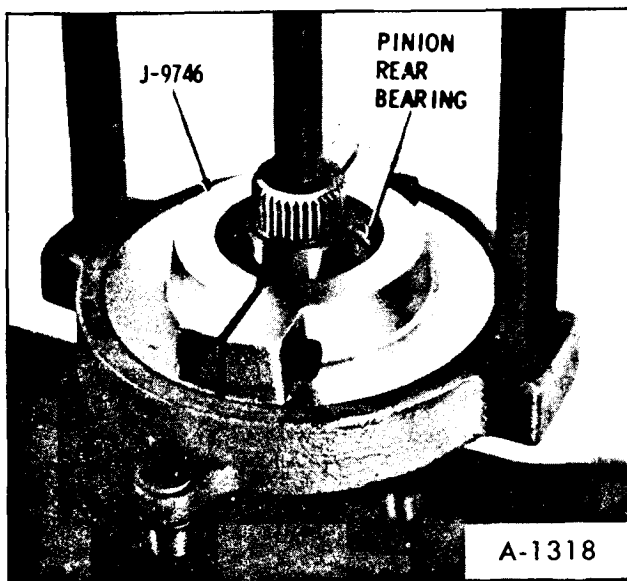

Figure 30—Removing Pinion Rear Bearing
2. Remove the pinion rear bearing as shown in Figure 30.